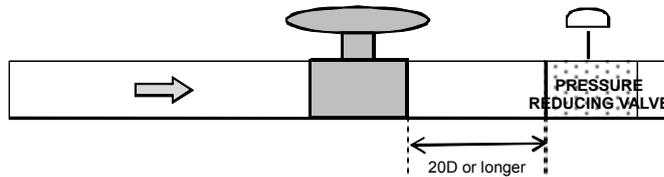

Fig. 2-2 Recommended straight pipe portion length 2 (D: Nominal diameter)
- 3) When the flow meter is installed near a pressure reducing valve or a flow adjustment valve, strictly observe "required straight pipe length L" as shown in the following Fig. 2-2, because ultrasonic noise may be generated inside the pipe.